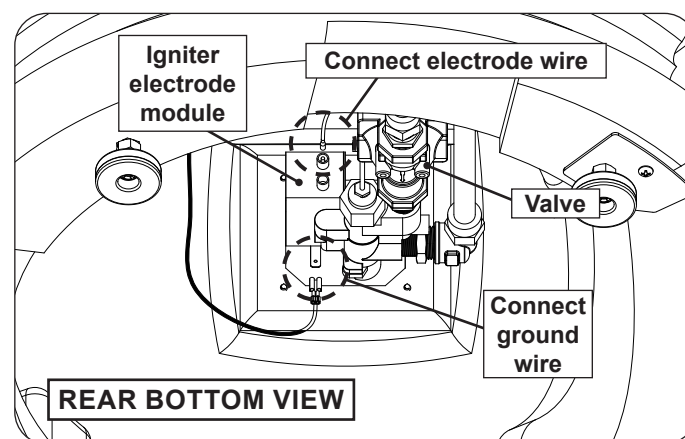

Fig. 31-4 Connect wires to electrode module
7. Locate the electrode wire and connect it to the round-pin terminal found on the back of the igniter electrode module. Then locate the ground wire and connect it to the 1/4" quick connect found on the side of the igniter electrode module (just behind the plate). See Fig. 31-4.